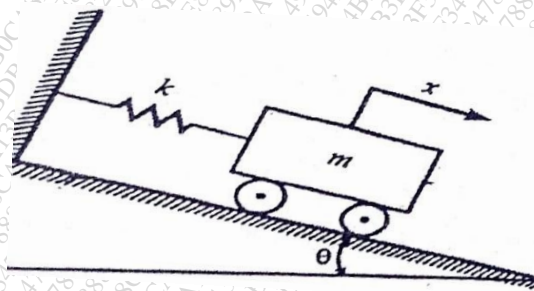

Figure 1
- Q1. Attempt any four of the following sub questions: (20)
- a. Explain Dunkerley's method and Rayleigh's Method to calculate the frequency of transverse vibration of shaft carrying number of point loads. (5)
- b. Explain with suitable example how condition monitoring can be used to avoid catastrophic failures. (5)
- c. Show that the inertia effect of a heavy spring under absolute deformation is accounted by transferring $1/3^{\text{rd}}$ of its mass at the free end. (5)
- d. What are the steps involved in vibration analysis? Explain with suitable example. (5)
- e. The block of 10kg resting on an inclined plane, is attached on one of its end to a spring of 10KN/m as shown in Figure 1. The inclination of the plane with respect to the horizontal is 25 degrees. The mass is displaced 25 mm and released. It is observed that the amplitude decreases 1.2 mm in each cycle. What is the coefficient of friction between the block and surface? (5)